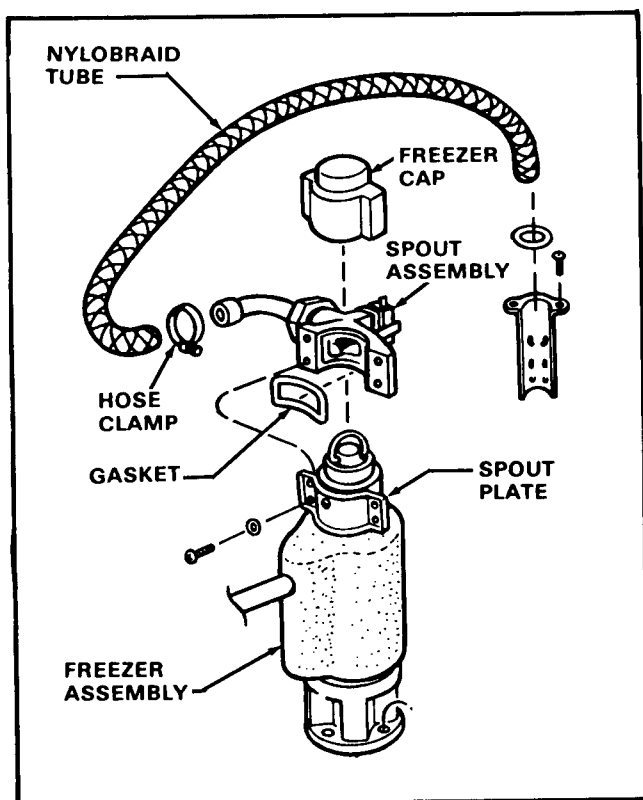

Figure 4-3. Removal of the Spout Assembly.
- A. To Remove the Spout Assembly, see Figure 4-3: